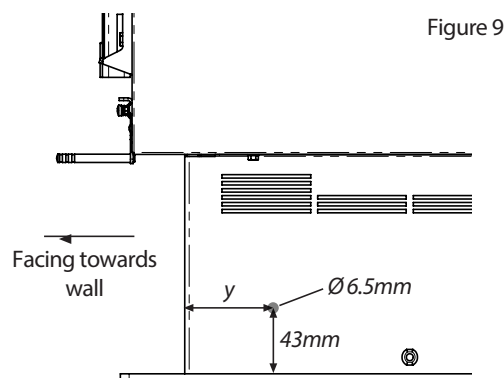

Figure 9
- Referring to figure 9, measure distance y from the front of the pedestal base at the side pointed towards the wall. Mark and drill a 6.5mm hole at this point, 43mm above the pedestal base on both sides of the appliance.